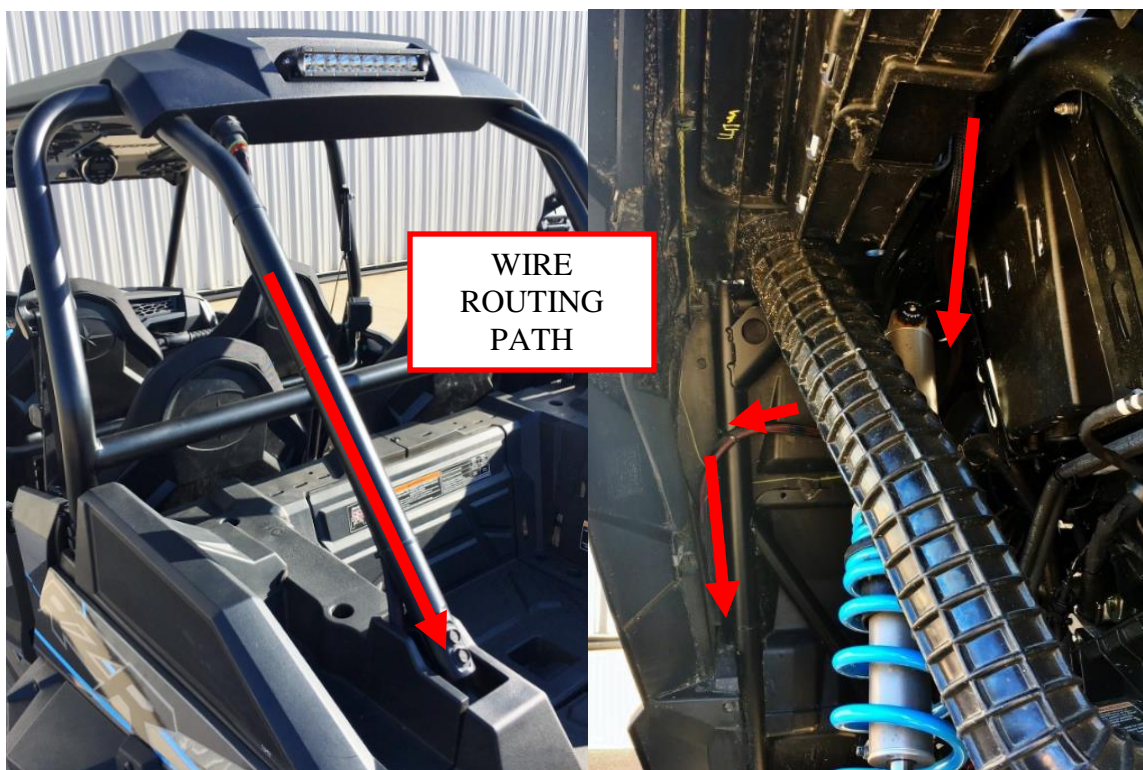

Figure 7: Route the battery cable wiring.
6. Route the chassis wiring harness along the down tube on the driver's side rear corner of the cage. The ends with the battery terminals extend into the rear fender well, further down the cage, behind the shock, and through the rear seat firewall. See Figure 7.